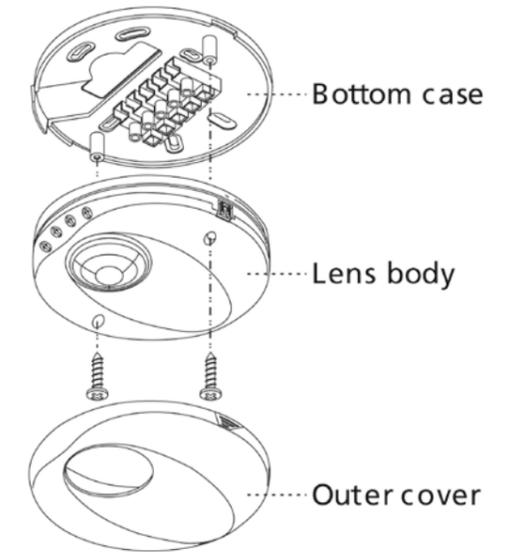

Fig. 6
3. Remove cardboard and screws used to assemble and fix the sensor (see Fig. 6).
5. Insert the lens body pins into the bottom case contacts, fasten it with screws firmly and snap on the outer cover the outer cover (see Fig. 6).